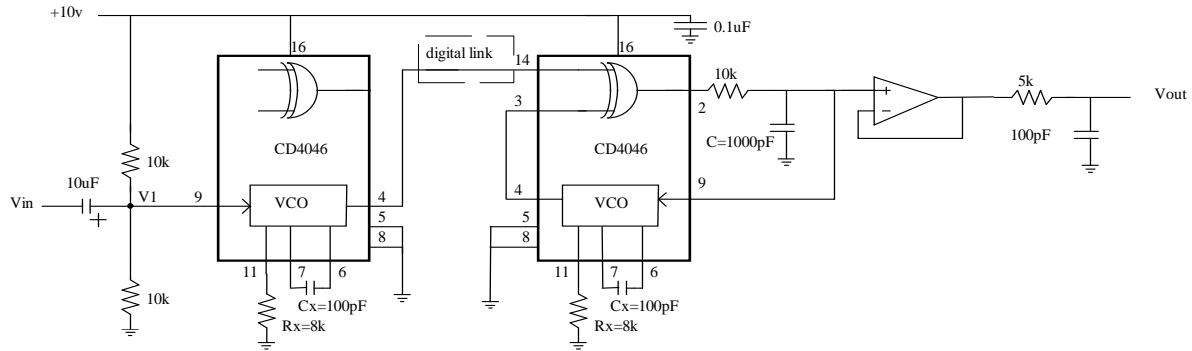
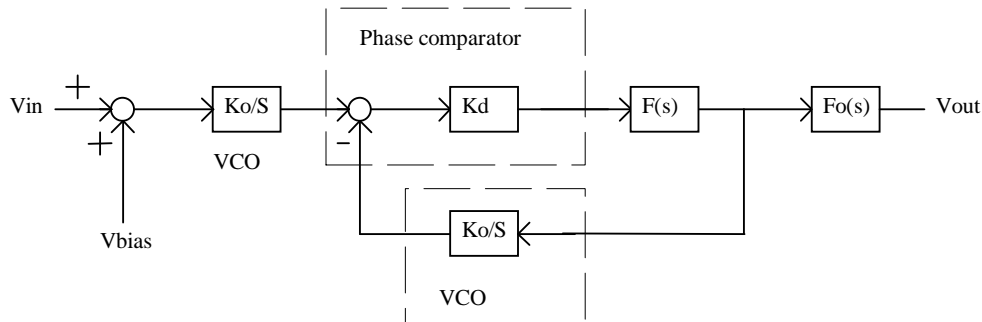

Figure 5. A frequency modulation and demodulation circuit.
Figure 6 Block diagram of the circuit in Figure 5.
Figure 5 shows the circuit that we will study in this lab. The first CD4046 is used as a frequency modulator. The output of the modulator is in digital form and therefore can be sent via a digital channel (fiber optics, e.g.). In this
Figure 6 is the block diagram of the circuit shown in Figure 5. The  $V_{\text{bias}}$  is set to +5v by the voltage divider. The values of  $V_{\text{bias}}$ ,  $R_x$ , and  $C_x$  set the center frequency.
2. Using Fig 5 and 6, determine the transfer functions for the RC networks  $F(s)$  and  $F_o(s)$ . The transfer functions should be correct before coming to lab.